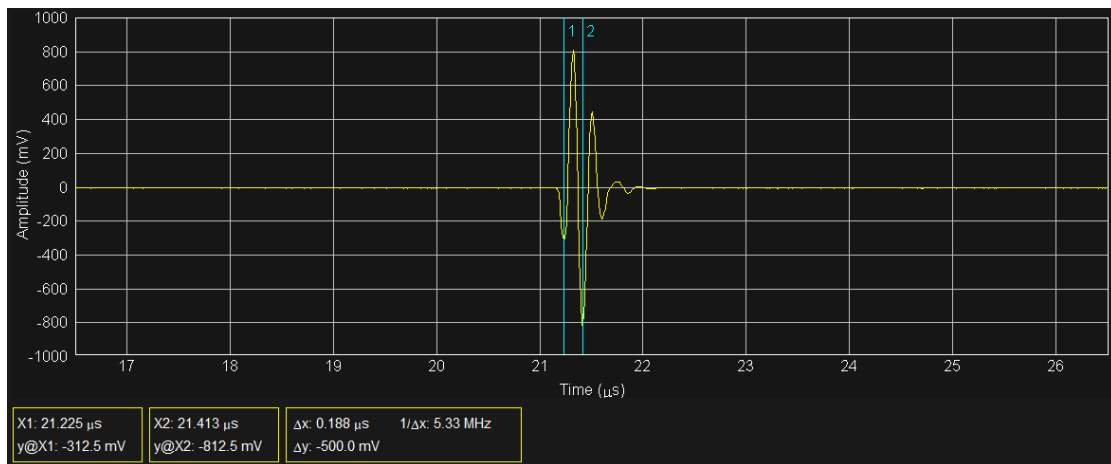

Figure 26. The horizontal and vertical values marked by cursors are shown on the bottom of control panel.
- c) **Cursors:** To display the cursors, check the box. Cursors are markers that identify the horizontal and vertical values at points on the x-axis. The horizontal and vertical values are shown on the bottom of control panel, as shown in Figure 26. The cursor can be repositioned by dragging the cursor with the left mouse button.